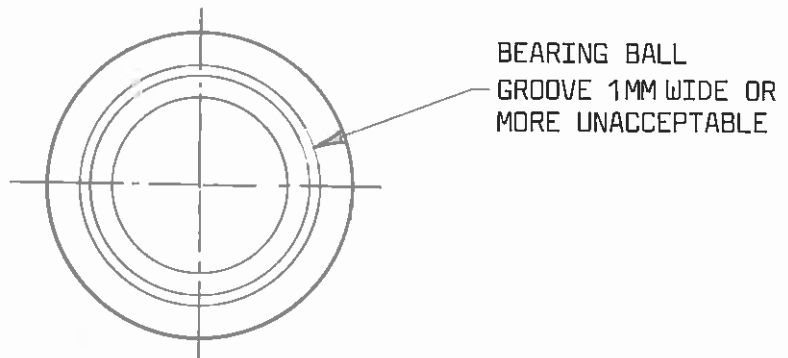
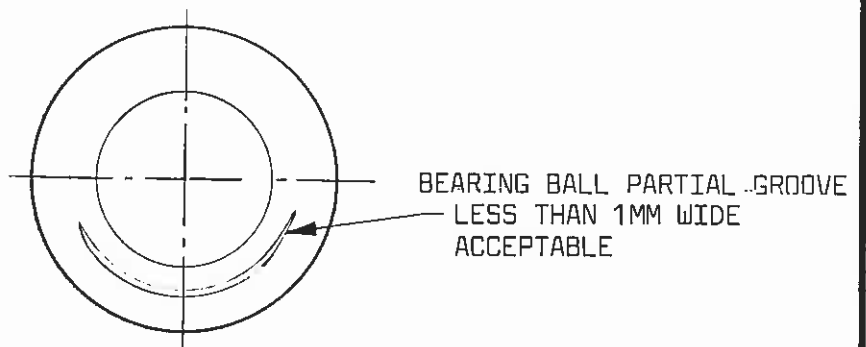

FIG 3
FIG 4
- ii) Excessive grooving, ref Fig. 3. If groove measures greater than 1mm wide, replace with new components. Partial grooving is acceptable provided the grooved area is not wider than 1mm, ref Fig 4.